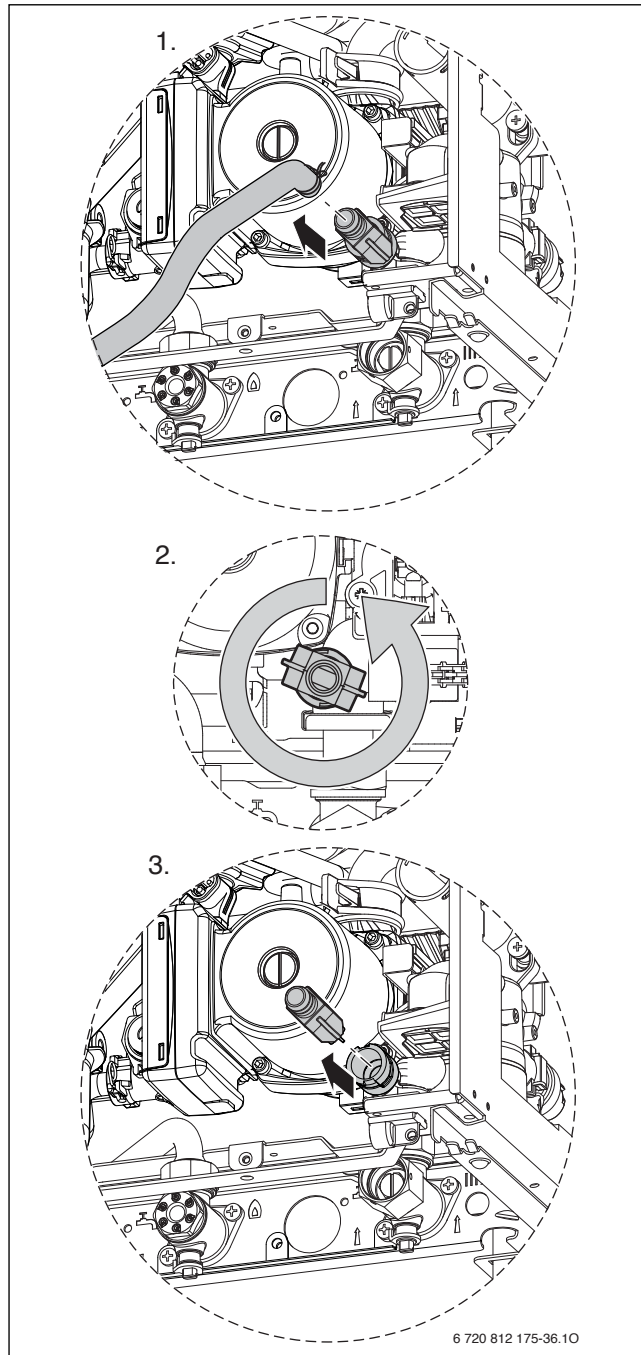

Fig. 92 Drain tap removal
- ▶ Disconnect drain pipe from drain tap (see e. g. step 1 in Fig. 92).